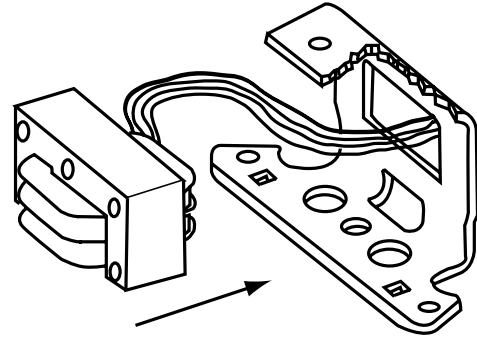

Figure 4.
4. Replace shock mount and magnet, feeding coil wires through hole in back of bracket (25B) as shown in Figure 4. Tighten mounting screws with 55 to 66 lb. in. torque.